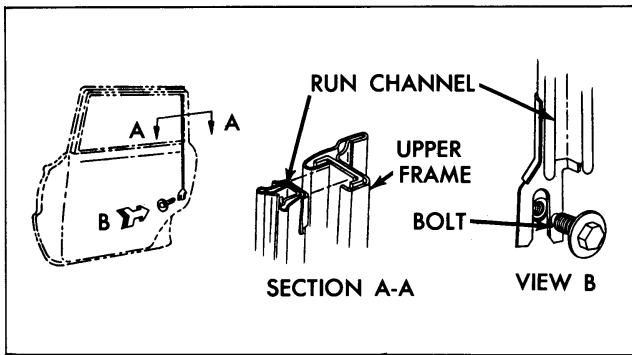

Fig. 3-45 Rear Channel Attachment
2. On 35, 45 and 69 styles, through large access hole, remove bolt securing lower end of glass run channel at door lock pillar and raise end of channel to expose lock (Fig. 3-45).
3. On 35, 45 and 69 styles, remove bolt securing lower end of glass run channel at door hinge to gain access to spring clip securing rod to lock (Fig. 3-45).
In the event of excessively loose door glass, however, the run channels can be moved closer to glass by adding shims (washers) between door lock and/or hinge pillar panel and run channels at attaching bolt locations. Figs. 3-45 and 3-53 show glass run channel attaching bolt locations.